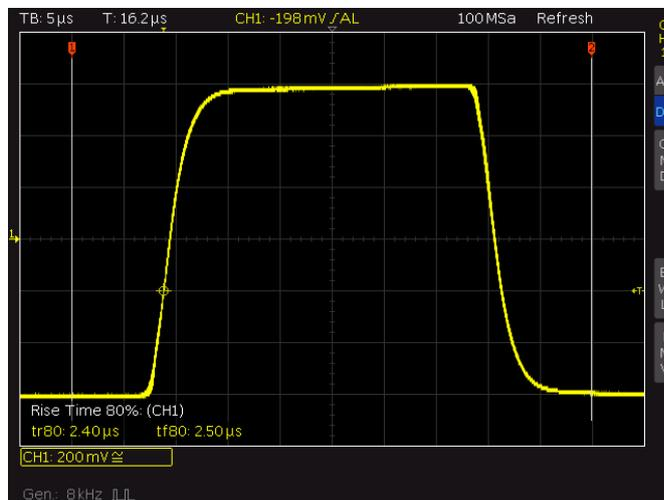

Fig. 20: Automated cursor measurement.
► Select *Rise Time 80%* and set the cursor so that the rise and fall times can be measured simultaneously; see Fig. 20.